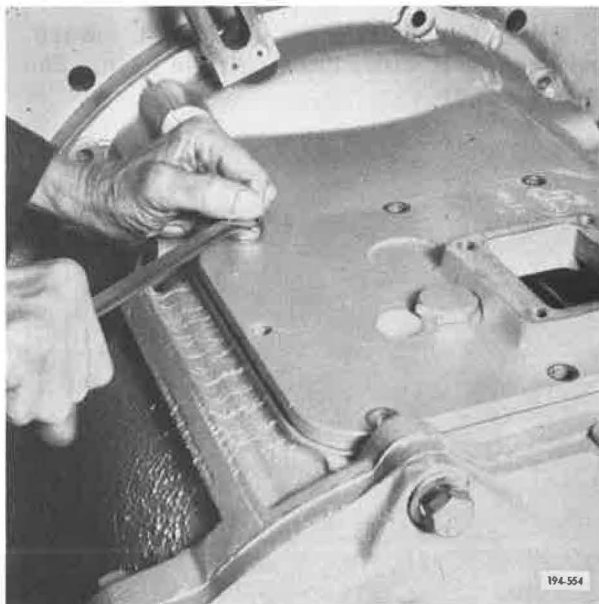

Figure 5-673. Removing Capscrew
8. Remove front case top cover capscrews. See **Figure 5-673**.